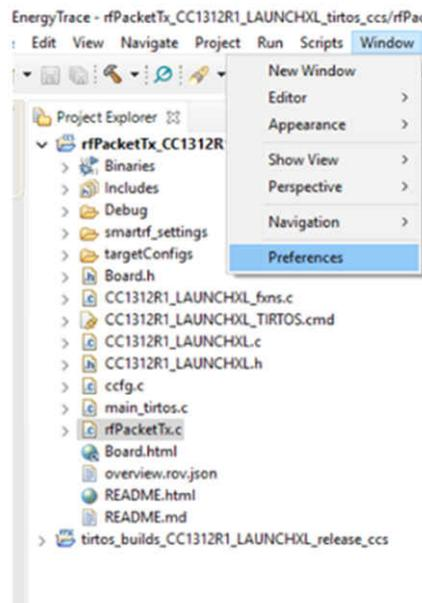

Figure 7-3. Preferences
3. EnergyTrace requires some configurations the first time it is being used within a CCS workspace. Go to the menu `Window` and select `Preferences` (see Figure 7-3).